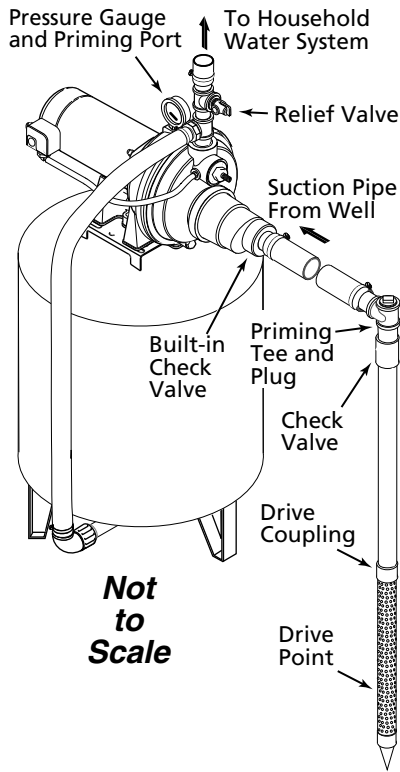

Figure 4 – Driven Point Installation
New Shallow Well, Driven Point Installation (Figure 4)
4. Use the fewest possible fittings (especially elbows) when connecting the pipe from the well point to the pump suction port. The suction pipe should be at least as large as the suction port on the pump (include a check valve – See Figure 4). Support the pipe so that there are no dips or sags in the pipe, so it doesn’t strain the pump body, and so that it slopes slightly upward from the well to the pump (high spots can cause air pockets which can air lock the pump). Seal the suction pipe joints with teflon tape or pipe joint compound approved for use on PVC. Joints must be air- and water-tight. If the suction pipe can suck air, the pump cannot pull water from the well. If one well point does not supply enough water, consider connecting two or three well points to one suction pipe.